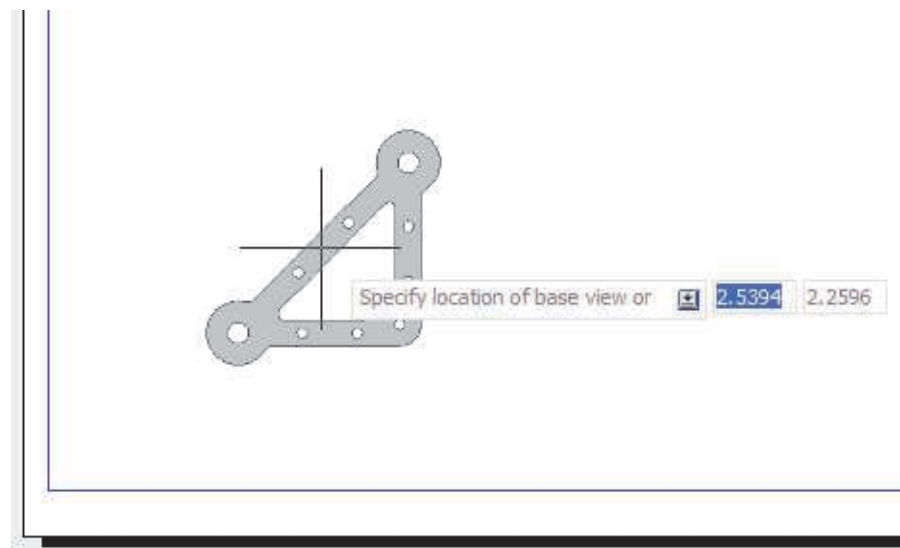

Figure 11–45
7. Select a location near the bottom left corner of the drawing to place the base view, as shown in Figure 11–45, and press <Enter>.